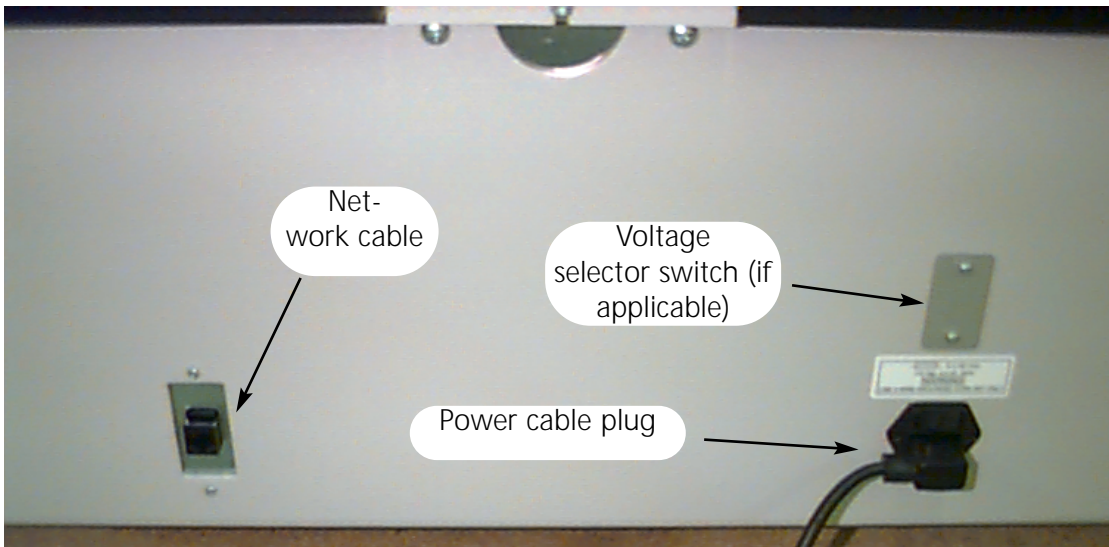

Figure 1-18
3. Plug the power cable to the rear of the unit as shown in Figure 1-18.